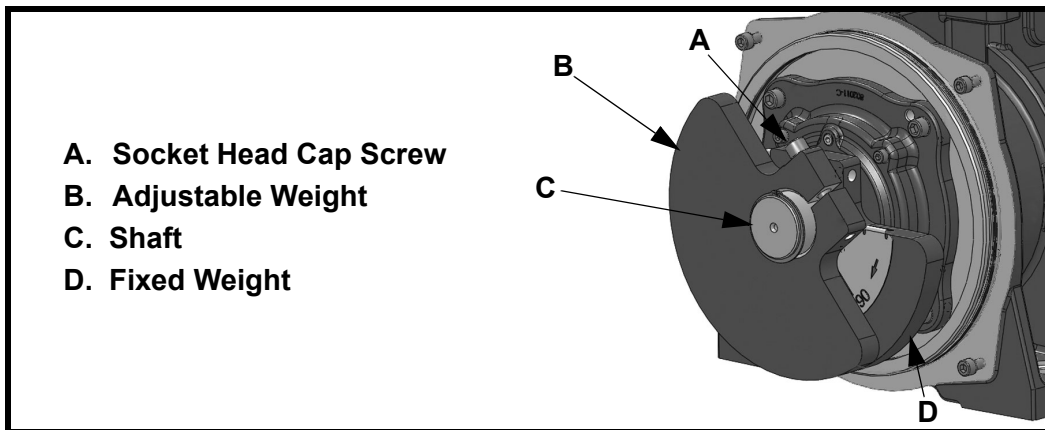

Figure 12. Adjusting Eccentric Weights
3. Loosen socket head cap screw (A, Figure 12) so adjustable weight (B) will rotate around shaft (C).